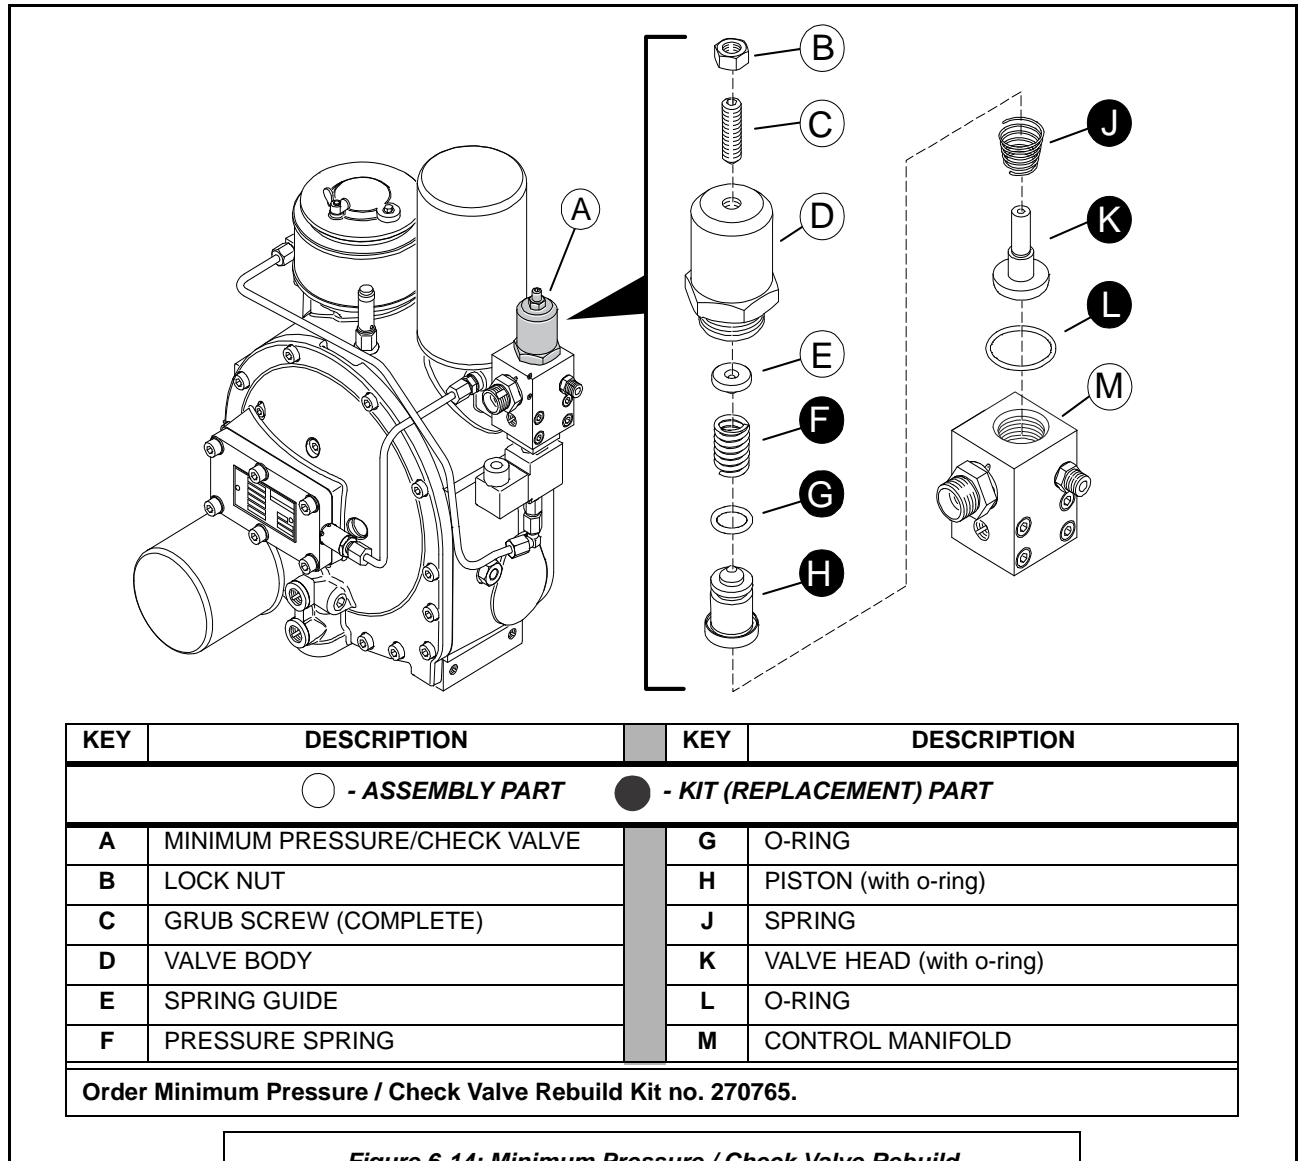

Figure 6-14: Minimum Pressure / Check Valve Rebuild
Should a condition occur that requires the minimum pressure/check valve to be serviced (see **Section 7.2, Troubleshooting Guide**), a repair kit is available. To repair the minimum pressure/check valve, order minimum pressure/check valve kit no. 270765. Refer to **Figure 6-14**, and the following procedure:
7. Consult **Figure 6-14**, and re-assemble the kit by replacing all old parts with corresponding part provided in the kit.